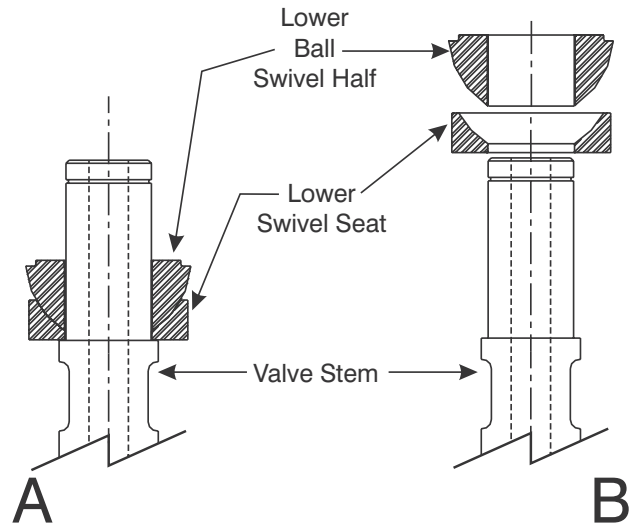

Figure 8-18. Remove Lower Swivel Parts from Valve Stem.
Remove the lower Ball Swivel (6) and lower Swivel Seat (5) from the Valve Stem (8) as shown in Figure 8-18.